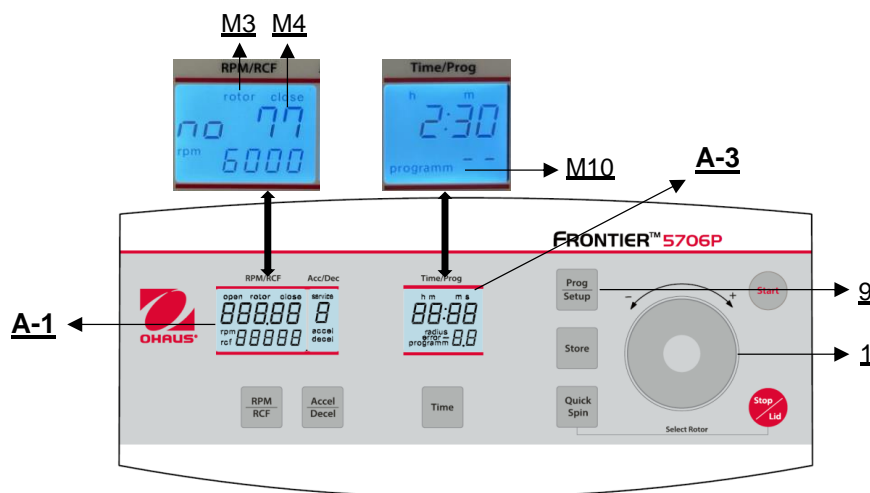

Figure. 24
To recall stored programs, press the key "**Prog/Setup**" (9) (see **Figure 24**) while the lid is already closed. Inside the display "**Time/Prog**" (A-3), "**program--**" (M10) appears. The desired program number can be pre-selected with the touch wheel (1).
To leave the program mode just press the key **"Prog/Setup"** (9) (see Figure 24). Then inside the display **"Time/Prog"** (A-3) the word **"programm"** (M10) appears. Set the display to **"programm--"** (M10) with the touch wheel (1).